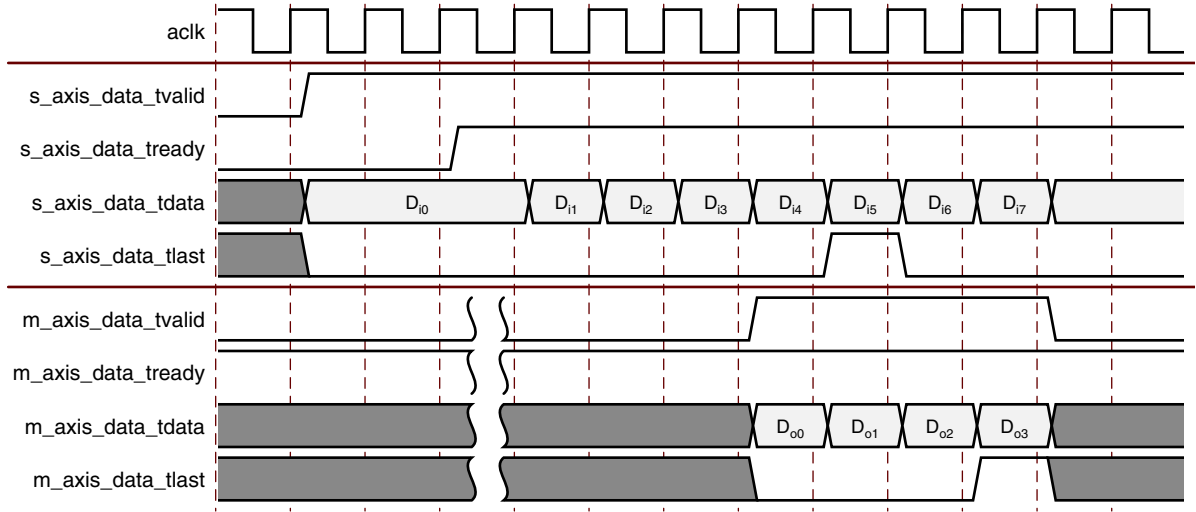
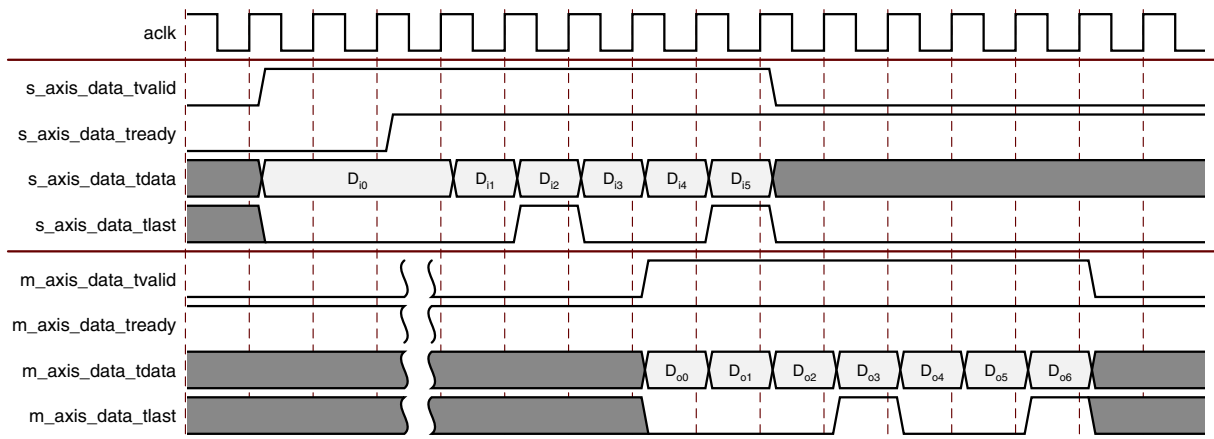
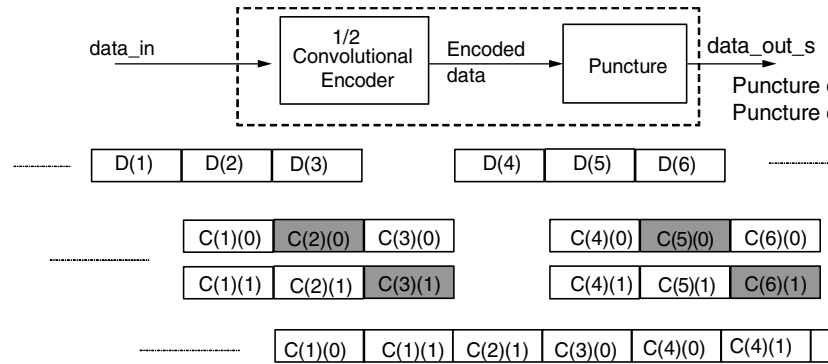
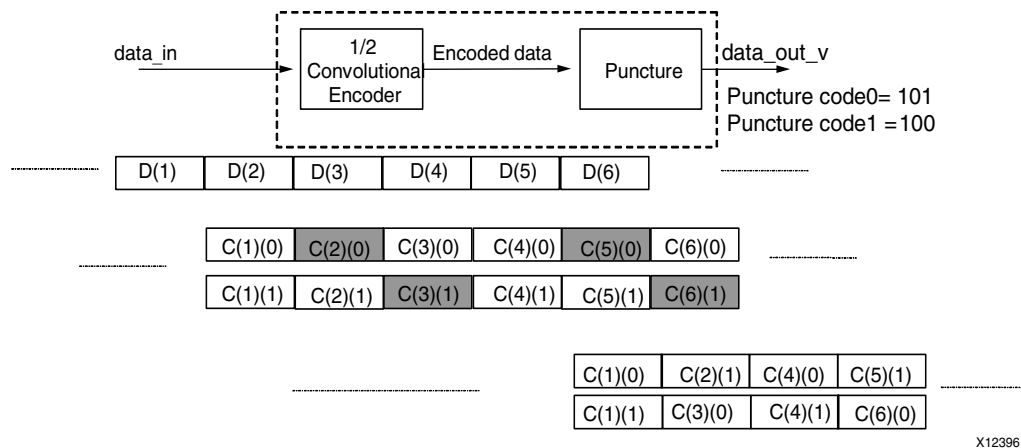

Figure 2-8: Dual Output Timing for Rate 3/4 Puncturing
Figure 2-9: Serial Output Timing for Rate 3/4 Puncturing
Figure 3-1: Puncture Encoding with Single-Channel Output
Figure 3-2: Puncture Encoding with Dual-Channel Output
For the single-channel output, after *n* input bits (puncture input rate) have been received, the *tready* signal goes low for *m-n* (where *m* is the puncture output rate) clock periods. The *m\_axis\_data\_tvalid* signal is used to indicate that valid output data is available which is output in a block of *m* bits (puncture output rate), as shown in Figure 2-9.
For the dual-channel punctured case, *s\_axis\_data\_tready* is always high (unless *aresetn* has been asserted or back pressure has been applied). The dual channel puncturing works on two blocks of *n* bits of data. After *2n* input bits have been received, where *n* is the punctured input rate, *m* symbols are output on *m\_axis\_data\_tdata* (width 2) after a certain latency. The *m\_axis\_data\_tvalid* signal indicates the valid outputs. The data is output in blocks of *m* symbols (width 2) and the *m\_axis\_data\_tvalid* signal is high for *m* clock cycles and low for the next *2n-m*. See Figure 2-8 for the 3/4 rate dual-channel punctured encoder.
This output is high when the last DATA\_OUT of a punctured block is on *m\_axis\_data\_tdata*. The port is not present on the non-punctured core. In the dual output case, *m\_axis\_data\_tlast* is only asserted high when *m* output pairs have been output, this corresponds to  $2n$  data inputs. This is shown in Figure 2-8. For the serial case the signal is asserted when *m* serial outputs have been output. This is shown in Figure 2-9.
The encoder can also puncture the data prior to transmission. In this case, the basic convolutional encoder is always a rate 1/2 encoder, two bits output for every one bit input. After the encoding, certain bits of the rate 1/2 encoded data are punctured (or deleted) and not transmitted. Thus, for a rate 3/4 punctured encoder, for every three input bits, only four of the six encoded bits generated by the encoder are actually transmitted, as shown in Figure 3-1. The two bits output from the encoder are punctured according to a pair of puncture codes. The puncture code is a bit pattern that identifies which bits from the encoder are to be transmitted. The use of puncturing significantly reduces the number of bits to be transmitted over the channel. For rate  $n/m$  puncturing, a puncture code of length  $n$  is used and exactly  $m$  bits are transmitted where  $n < m < 2n$ . For rate  $n/m$  puncturing, the length of each puncture code must be  $n$  bits and the total number of non-zero bits must be equal to  $m$ .
**Note:** The order of application of the puncture code is now left to right and matches the order of application of the convolution codes, see Figure 3-1, puncture code 1. The value of  $n$  can range from 2 to 12.
For the punctured encoder, the data can be output as a single bitstream, as shown in Figure 3-1. This single-channel output requires the use of the slave input `tvalid` and slave output `tready` as there are more bits output than bits input. Also, in the single-channel case, the `tready` signal is low for  $m-n$  clock cycles after receiving the  $n$  input bits, as shown Figure 2-8.
The data can also be output two bits at a time for the punctured encoder when the dual-channel output mode is selected, as shown in Figure 3-2. In this situation, there is less data output than input and the `tready` signal, if present, is only low if the master output data stream has been halted or the core reset. The master `tvalid` signal indicates when the output data is valid in both cases. For timing diagrams for the dual output case, see Figure 2-8.
The two puncture pattern codes used to remove bits from the encoded data prior to output. The length of each puncture code must be equal to the puncture input rate, and the total number of bits set to 1 in the two codes must equal the puncture output rate (m) for the codes to be valid. A 0 in any position indicates that the output bit from the encoder is not transmitted. See Figure 3-1 for an example of a rate 3/4 punctured encoder. For the puncturing case, the data can be output in a single bitstream or in the dual-channel mode where the data is output in parallel two bits at a time.